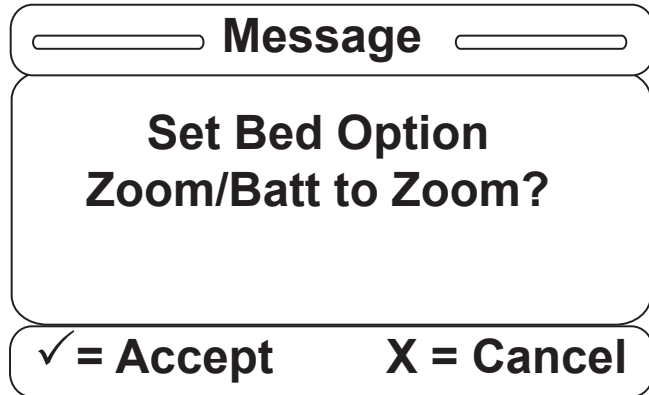

Figure S-7
7. Once you have selected one of the items, a confirmation screen such as that in Figure S-7 will be displayed. The confirmation screen text will vary based on the item you have selected. The confirmation screen displayed in Figure S-7 indicates that the user chose Zoom. Hit "Enter" on the footboard panel to confirm the Zoom/Batt. option; hit "Exit" to cancel the operation.